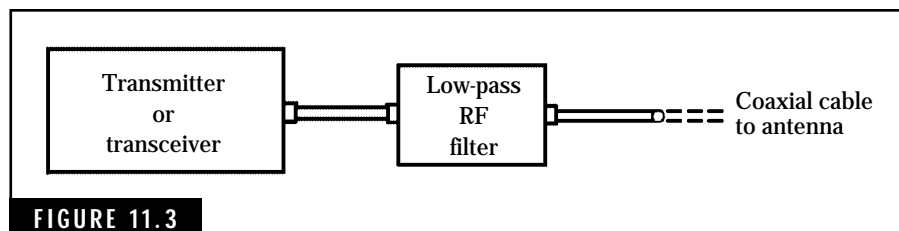

FIGURE 11.3
Some older or home-built amateur transmitters can radiate harmonic or spurious signals, thereby causing interference problems. Internal modifications such as shielding the high-power stages or installing bypass capacitors can clear up these problems. This type of effort requires considerable patience and a technical expertise. An alternate solution is to determine if a low-pass RF filter will eliminate the interfering signals. A number of companies offer high-quality RF filters for amateur operation. For example, the Barker & Williamson Company, 10 Canal Street, Bristol, PA 19007 [Telephone: (215) 788-5581], offers a complete line of radio-frequency filters for the amateur station. The B&W Series FL10 Low Pass TVI Filters for 160–10 meters and FL6 Filters for 6 meters are available in either 100 or 1000 watt power capacity ratings. Most of these filters are designed for 52-ohm transmission lines; however, the FL10/1500/70 works with 72-ohm transmission lines. Figure 11.3 shows how these filters can be installed.